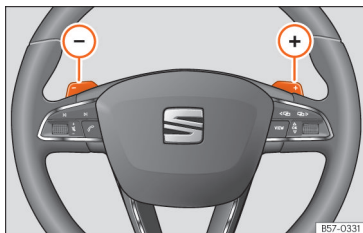

Fig. 246 Steering wheel: automatic gearbox levers
- Press the gearshift paddle to select a higher gear >>> **Fig. 246**.